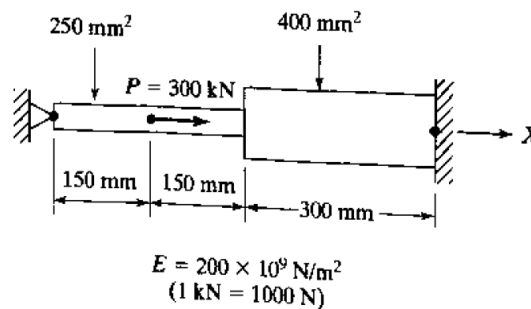

Fig.1
- 2 Consider the bar as shown in fig.1. Determine the nodal displacements, element stresses and support reactions. Solve this problem by hand calculation, adopting the elimination method for handling boundary conditions. [15M]